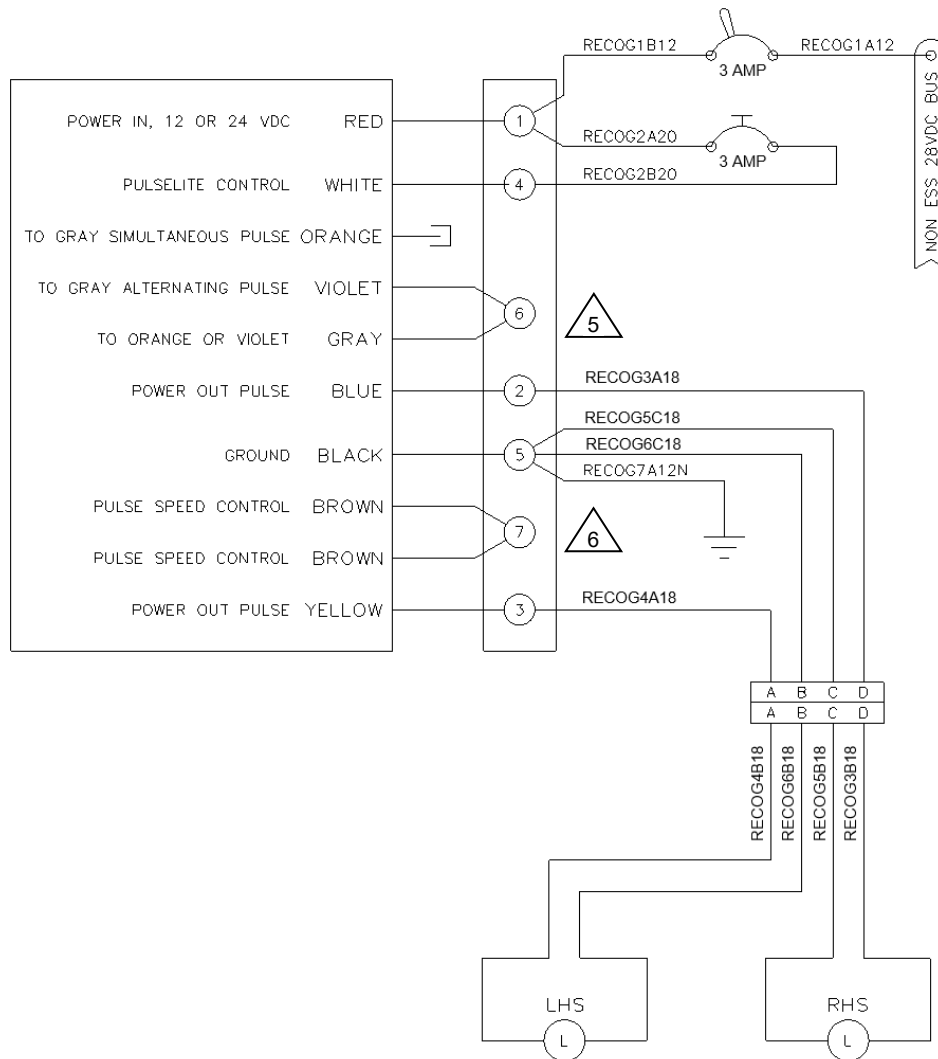

Figure 13
- Lead the free (raw) ends of the supplied Wiring Harness, Assys (Item 47 & 50A) from the Bracket, Assy (Item 42) to the Control Unit, Assy (Item 15) on the radio rack and wire accordingly. Reference Figure 13.
25. Wire the Toggle Switch (Item 51) and pulse control to the aircraft. Reference Figure 13.